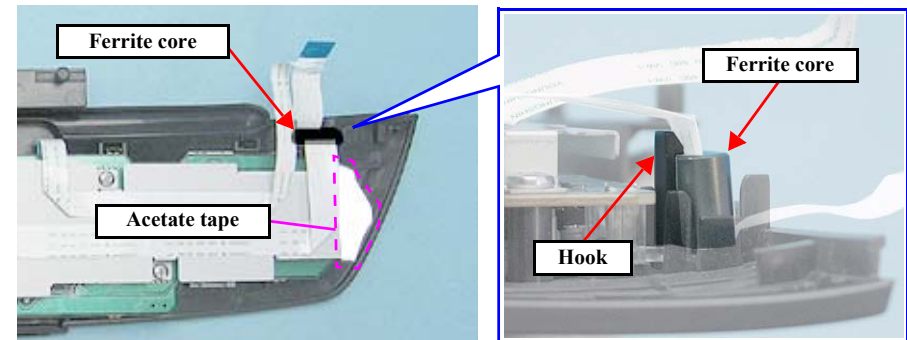

Figure 4-68. Removing the Panel Board (1)
- Attach 40mm-length acetate tape referring to Fig.4-68.